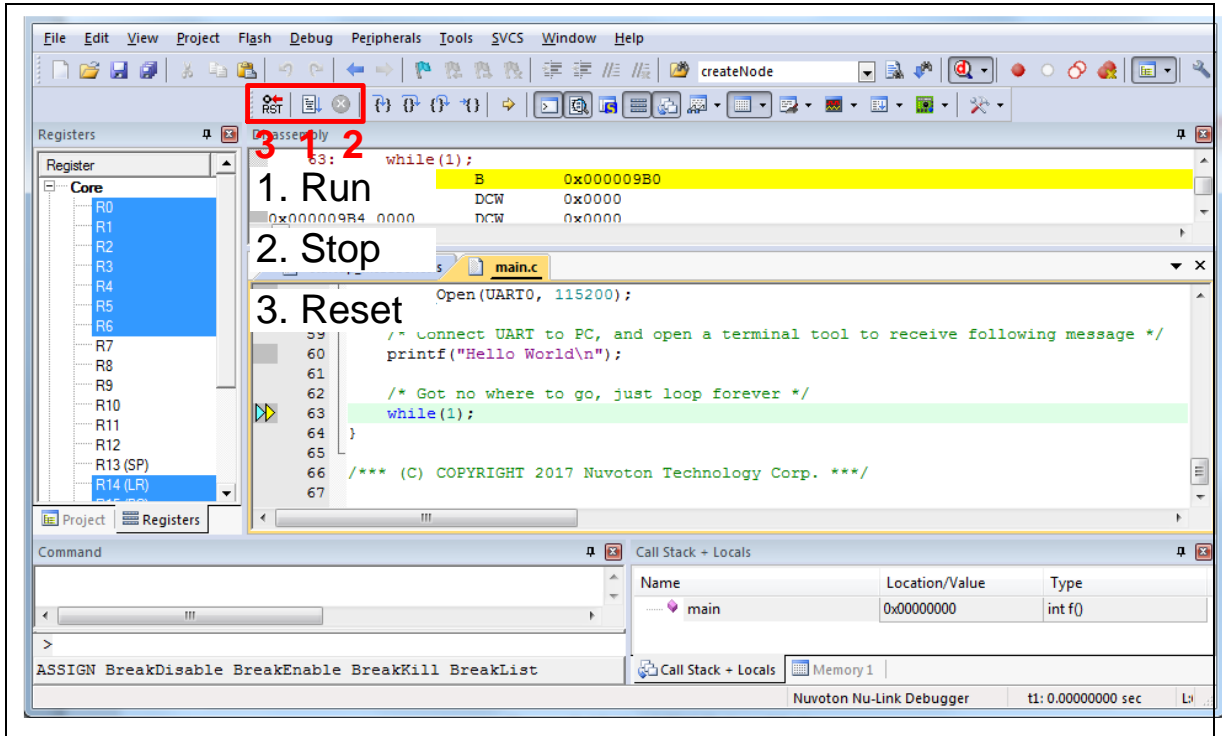

Figure 4-13 Keil MDK Debug Mode
- Figure 4-13 shows the debug mode under Keil MDK. Click “Run” and the debug message will be printed out as shown in Figure 4-14. User can debug the project under debug mode by checking source code, assembly language, peripherals’ registers, and setting breakpoint, step run, value monitor, etc.